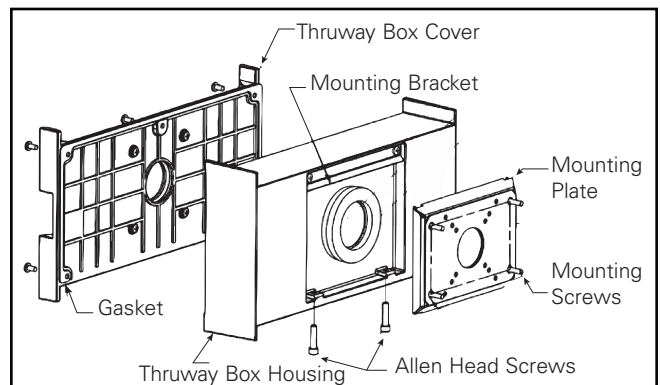

Figure 2.
1. Remove the mounting plate from the back of thruway box by loosening two (2) Allen head screws. (Figure 2.)
2. Mount the mounting plate to the wall using the four (4) larger holes with required hardware (by others). Plate must be in the correct upright position.